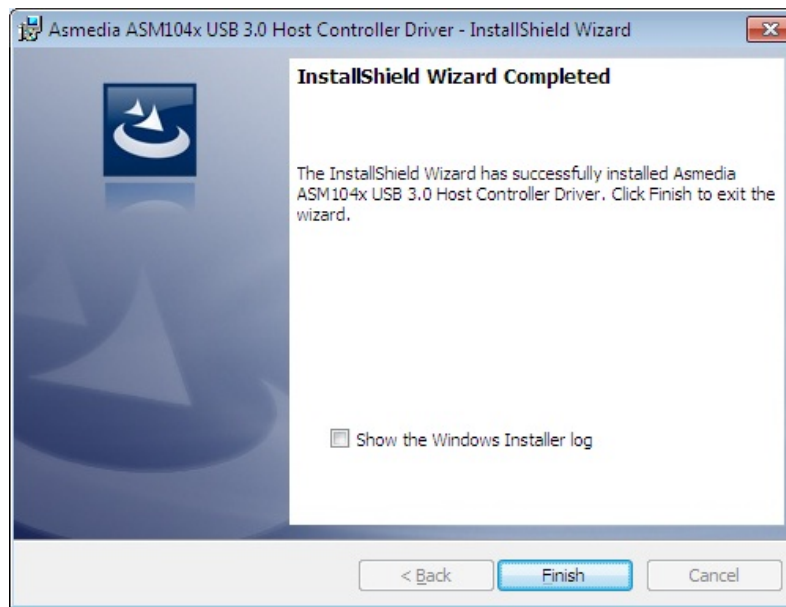

Figure 6-23: USB 3.0 Driver Installation Finish Screen
Step 10: When the driver installation is complete, the screen in **Figure 6-23** appears